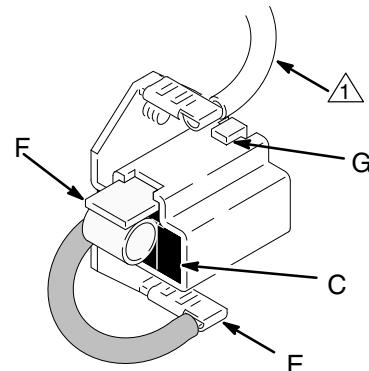

Fig. 17
7. Holding the spring clip (F) at a slight angle, slide the spring clip into the brush holder and hook it over the end of the holder. See Fig. 17. Pull on the spring clip to be sure it stays in place. Connect the brush lead to the blade connector (E).